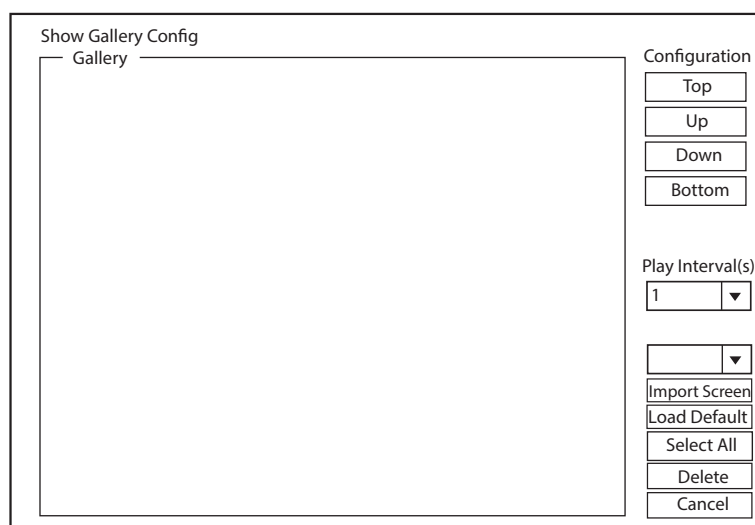

Figure 4-3 Show Gallery Screen
1. Click **Show Gallery** to enter the **Show Gallery** screen, as shown in Figure 4-3.